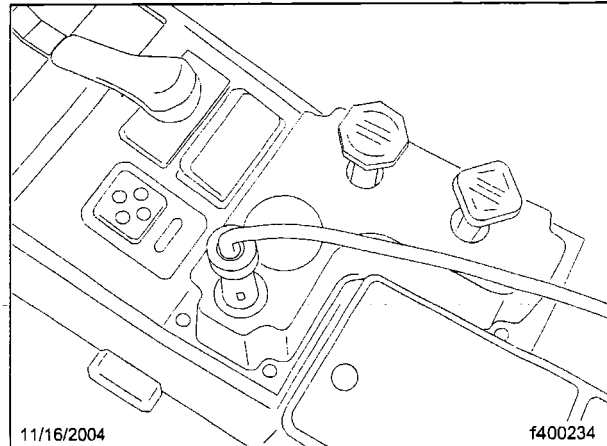

Fig. 6, Adapter II Connected to 12V Socket
- 2.3 Connect the Adapter II to the 12V socket. See **Fig. 6**.